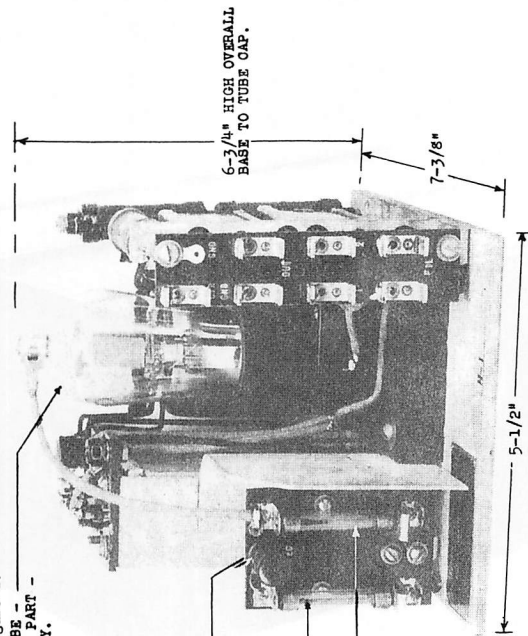

FIG. 1 - 62-A AMPLIFIER
2.2 62-A Amplifier - This is a single stage PEO Amplifier, designed to mount in the 102-A Apparatus Box associated with the 206-B or 206-E type Reproducer Set. It operates only in conjunction with the 3-A Photoelectric Cell, requires one 262-A Vacuum Tube for operation, and supply voltages of 10V AC (heater), 120V DC (plate), and 90V DC (PEO). It is shown in Figure 1.